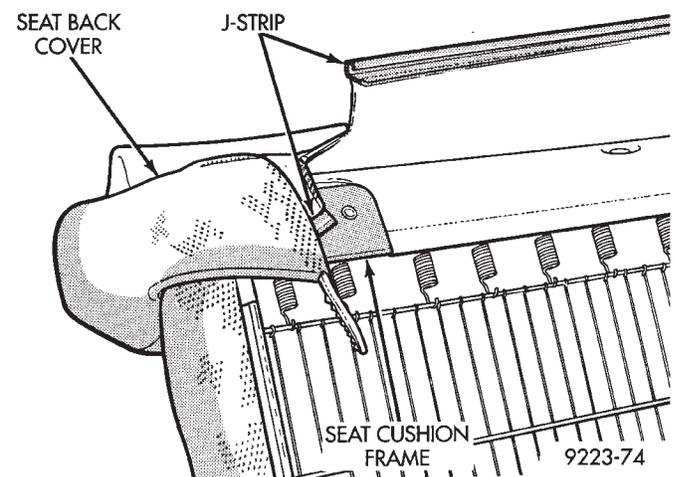
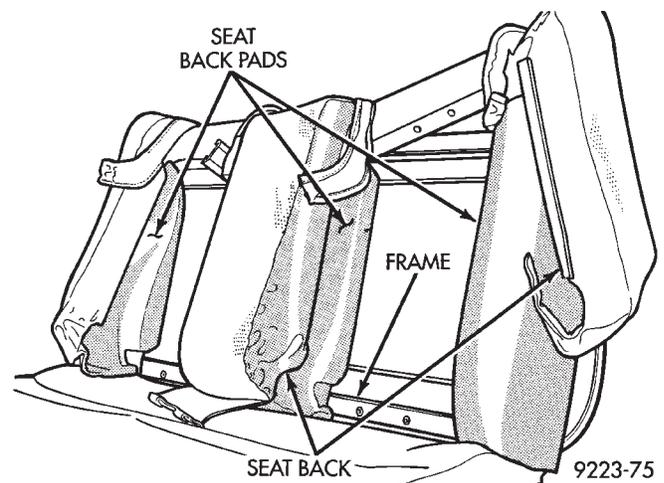

Fig. 33 Seat Back Cover J-strip
Fig. 34 Seat Back Cover and Pads
- (6) Disengage J-strips holding seat back cover to bottom of cushion frame (Fig. 33).
- (7) Disengage J-strips holding seat back cover to seat back frame retaining wires.
- (8) Remove hog-rings holding cover to outboard seat back frame retaining wires.
- (9) Separate cover from pads and frame (Fig. 34).
- (10) Remove hog-rings holding pads to seat back frame.
- (11) Separate pads from frame.
- (12) Remove screws holding upper insulator cap to seat back frame.
- (13) Separate insulator cap from frame.